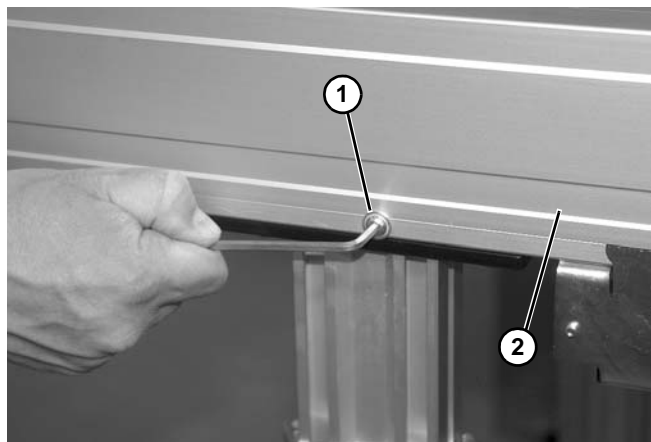

Figure 29
1. Remove screws (**Figure 29, item 1**) holding side cover (**Figure 29, item 2**) onto conveyor frame.